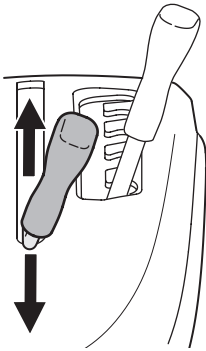

Figure 17
2. Push the PTO (Blade Engage) Lever forward into the engaged (ON) position. See Figure 17.